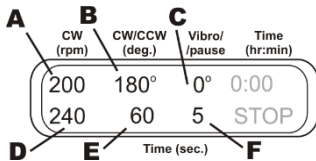
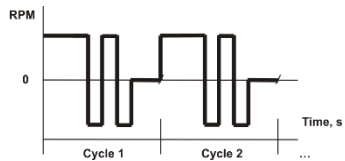

Figure 6.
Figure 7.
6.9.3 **Rotational + Reciprocal motions + Pause.** Set the speed (40-1000 rpm, fig. 6/A) and time (1-250 s, fig. 6/D) of rotational motion. Set the angle (30-360°, fig. 6/B) and time (1-250 s, fig. 6/E) of reciprocal motion. Reciprocal and rotational motions have the same speed. Set the turning angle of vibro motion to zero (fig. 6/C). Set the time of vibro motion (1-5 s, fig. 6/F) - this is the duration of pause. Graph in figure 7 shows motion in this mode.